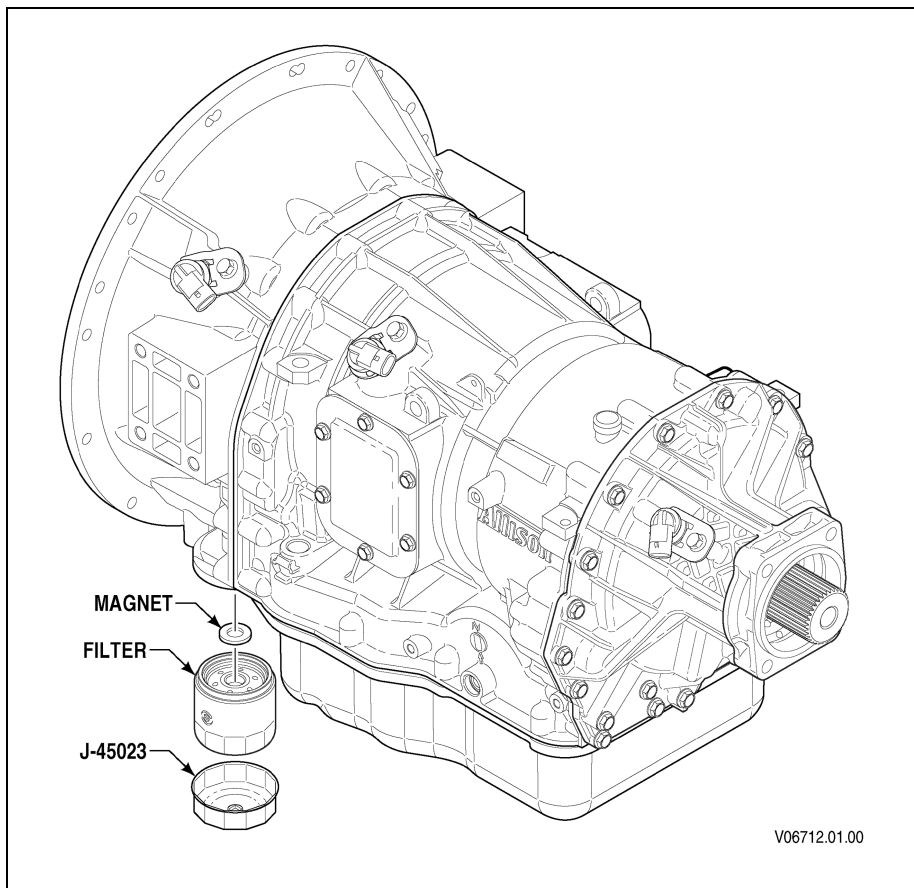

Figure 5–2. Replacing the Control Main Filter
1. Using a standard strap-type filter wrench or the J–45023 Filter Wrench tool, remove the control main filter (Figure 5–2) by rotating it in the counterclockwise direction.